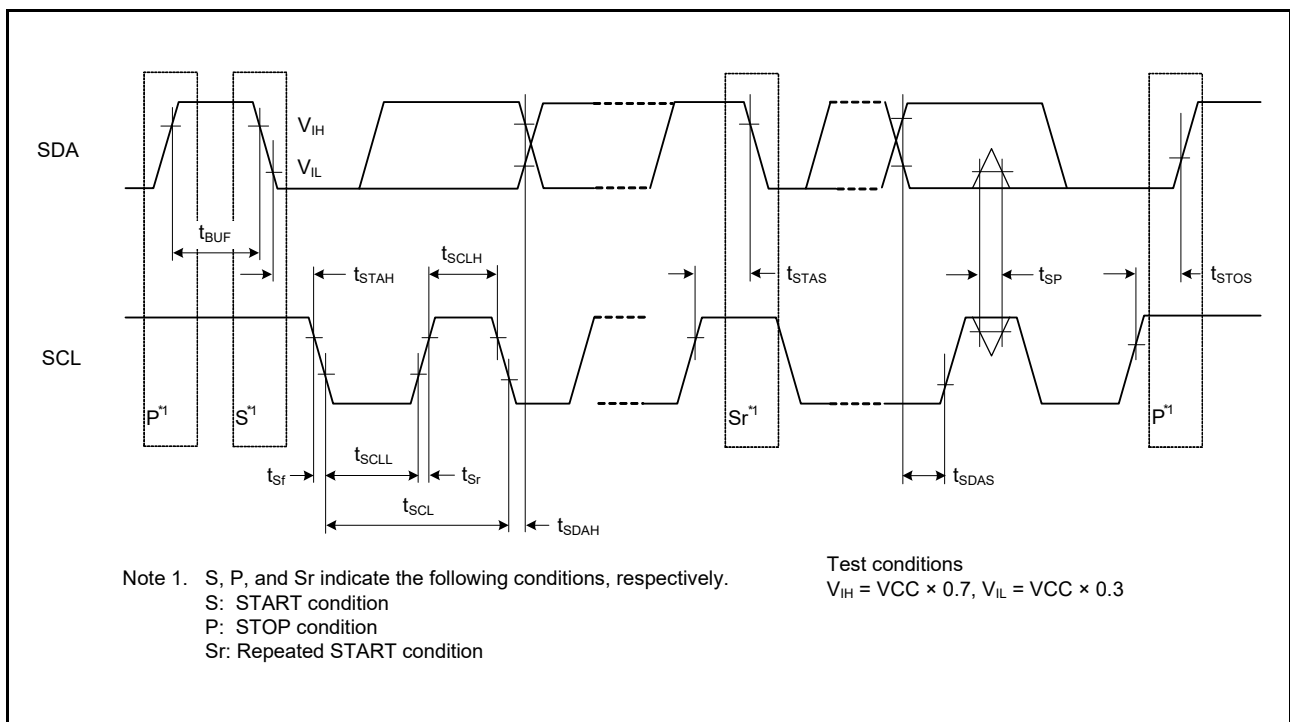

Figure 5.52 IIC Bus Interface Input/Output Timing and Simple I2C Bus Interface Input/Output Timing
| RIIC (Standard mode, SMBus) | SCL cycle time | t _{SCL} | 6 (12) × t _{IICcyc} + 1300 | — | ns | Figure 5.52 |
| RIIC (Fast mode) | SCL cycle time | t _{SCL} | 6 (12) × t _{IICcyc} + 600 | — | ns | Figure 5.52 |
| Simple I ² C (Standard mode) | SDA rise time | t _{Sr} | — | 1000 | ns | Figure 5.52 |
| Simple I ² C (Fast mode) | SDA rise time | t _{Sr} | — | 300 | ns | Figure 5.52 |